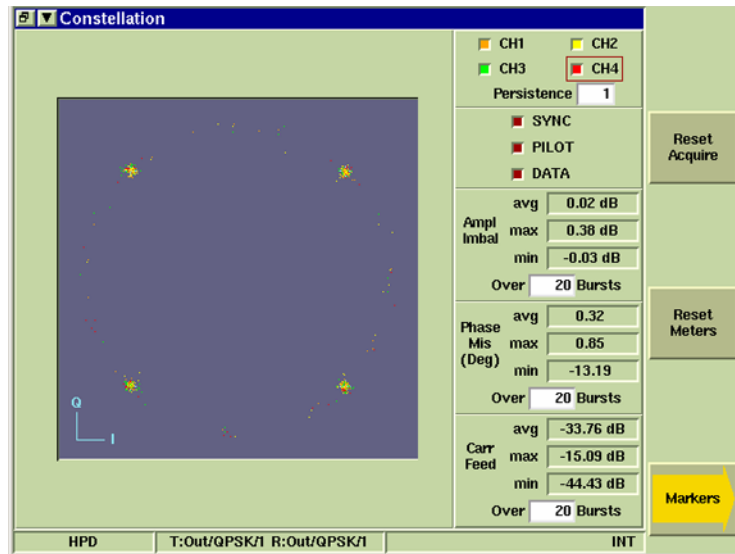

Fig. 5-4 Constellation Tile - QPSK Signal
20. Verify the **Constellation Tile** displays a QPSK signal as shown in Fig. 5-4.